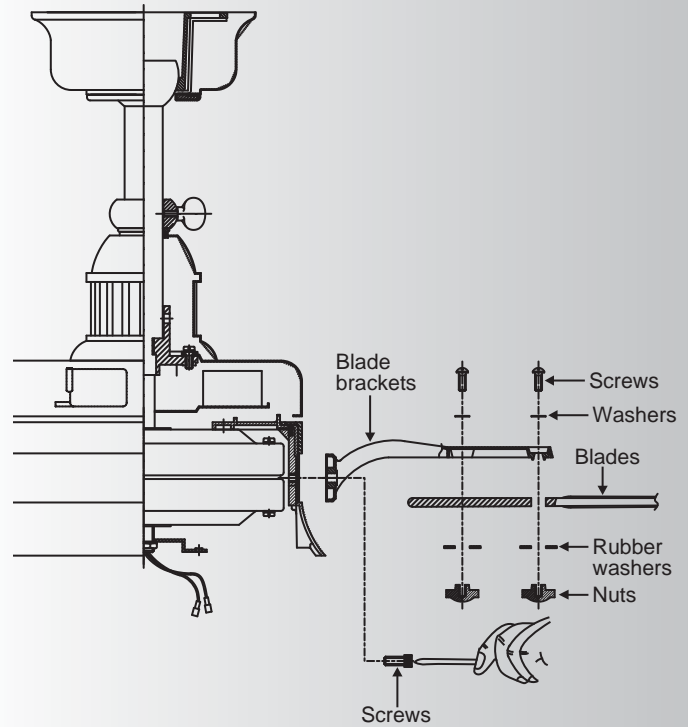

Fig. 16
Step 1. Attach a blade to a blade bracket using the screws, metal washers, plastic washers and Nuts provided. (Fig. 16)
Step 2. Attach each blade assembly to the motor using two mounting screws in the blade bracket. (Fig. 16)